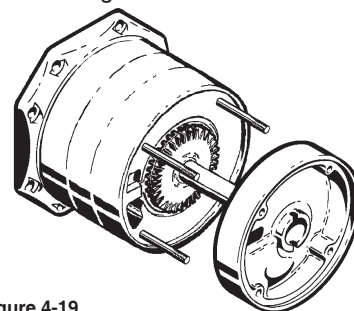

Figure 4-19
- b. Slide the channel ring onto the guide rods with the water channel facing down towards the impeller. The small outlet opening should be on the opposite side from the pump inlet. Refer to Figure 4-19. Push on firmly until the "O" ring fits inside the lip in the previously installed channel ring.
- b. Slide the channel ring onto the guide rods with the water channel facing down towards the impeller. The small outlet opening should be on the opposite side from the pump inlet. Refer to Figure 4-19. Push on firmly until the "O"ring fits inside the lip in the previously installed channel ring.